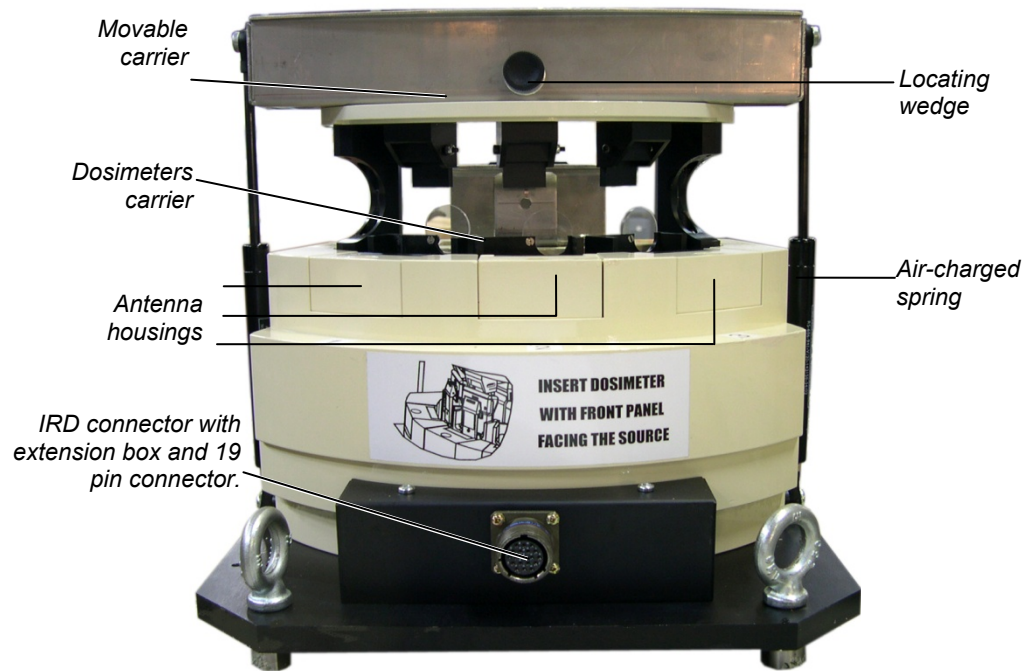
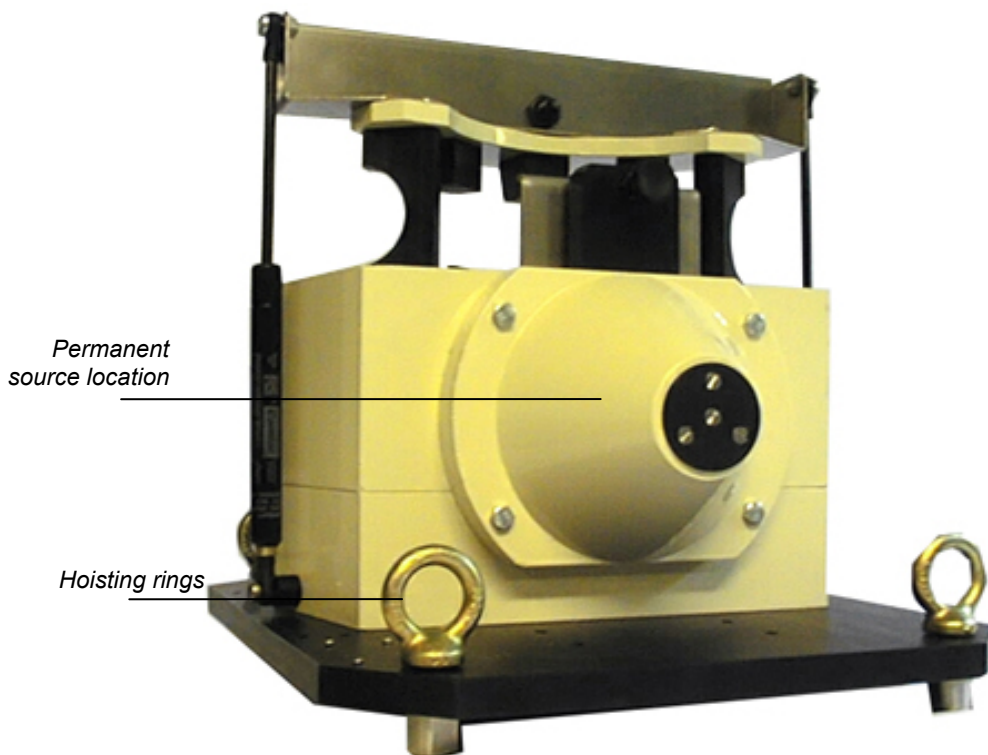

Figure 2 - Irradiator front view, dosimeter carrier lifted
Figure 3 - Irradiator rear view, dosimeter carrier lifted
- In the open position, to insert and remove the dosimeters, (see Figure 2 or Figure 3)